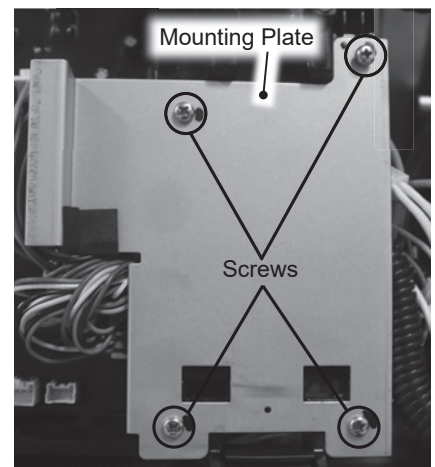

Figure 19 - Mounting plate screw removal.
- 7 Locate the four (4) screws securing the metal mounting plate. See Figure 19. Use a Phillips screwdriver to remove the screws. Place screws and mounting plate aside in a safe place for reinstallation.
36 Reinstall the metal mounting plate using the four (4) screws removed in **Step 7**. See Figure 19.